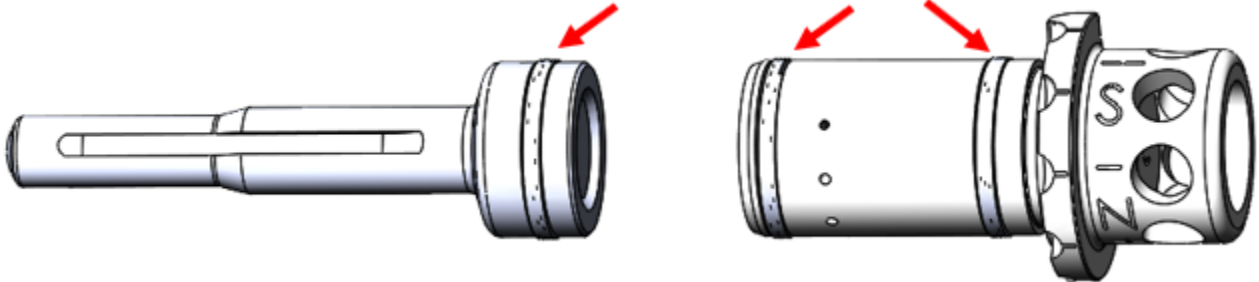

Figure 64: Gas Valve & Piston
3. Apply a light coating of CLP to the gas adjustment valve and the large gas ring on the gas piston. (Figure 64)